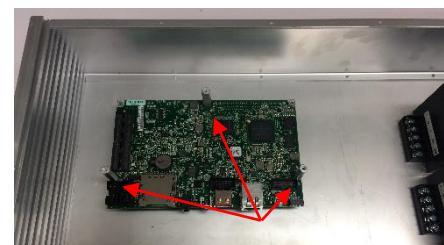

Figure 85 2nd layer of standoffs installed
- Screw the longer three standoffs into the three unused mounting holes on the first sbRIO. See Figure 85.